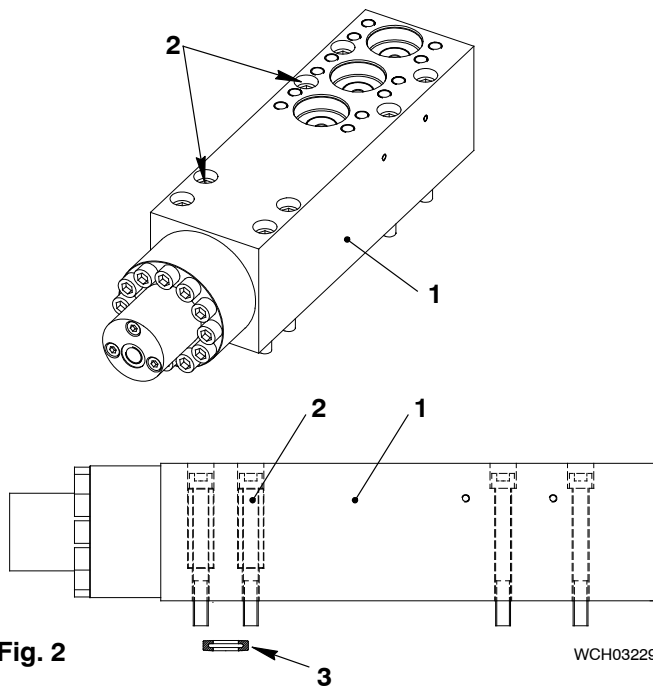
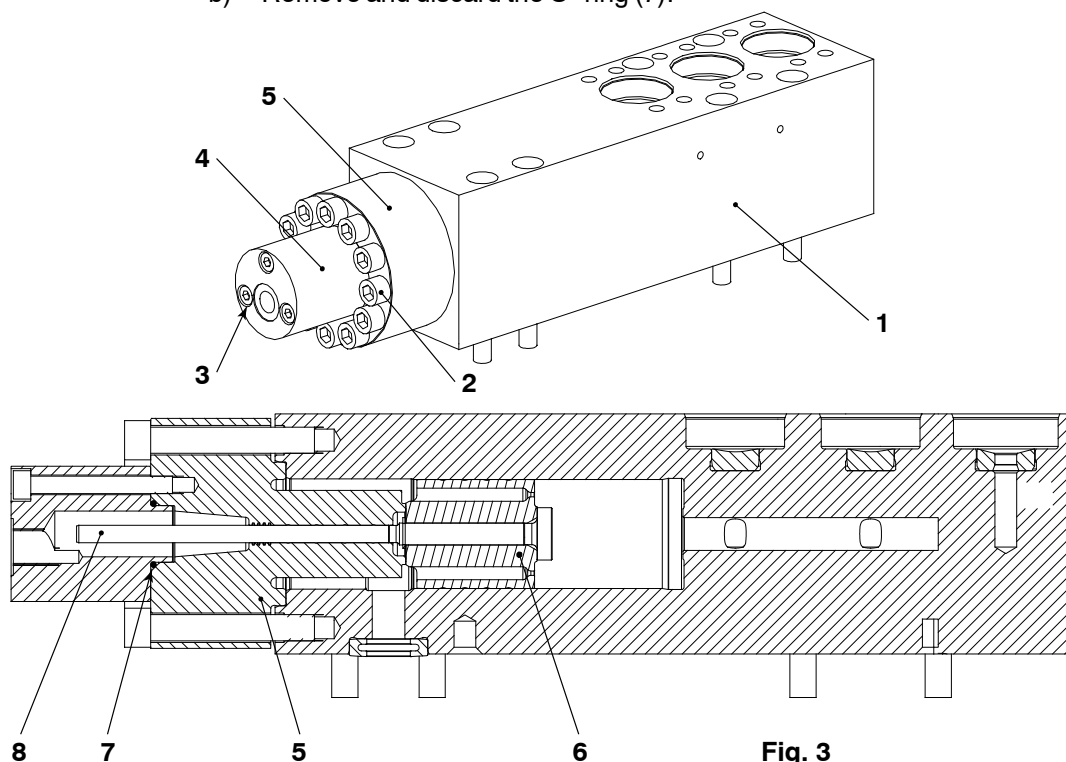

Fig. 2
Fig. 3
- 3) Remove the bolts (2, Fig. 2) from the FLV.
- 6) Remove and discard the lip seal (3).
- 7) Remove the three bolts (5, Fig. 3) and the cover (4).
- a) Remove the Allen screws (3) and the cover (4) from the flange (5).
- b) Remove and discard the O- ring (7).
- 1) If it is necessary to assemble the flange (5, Fig. 3) and the piston rod (8), do as follows: